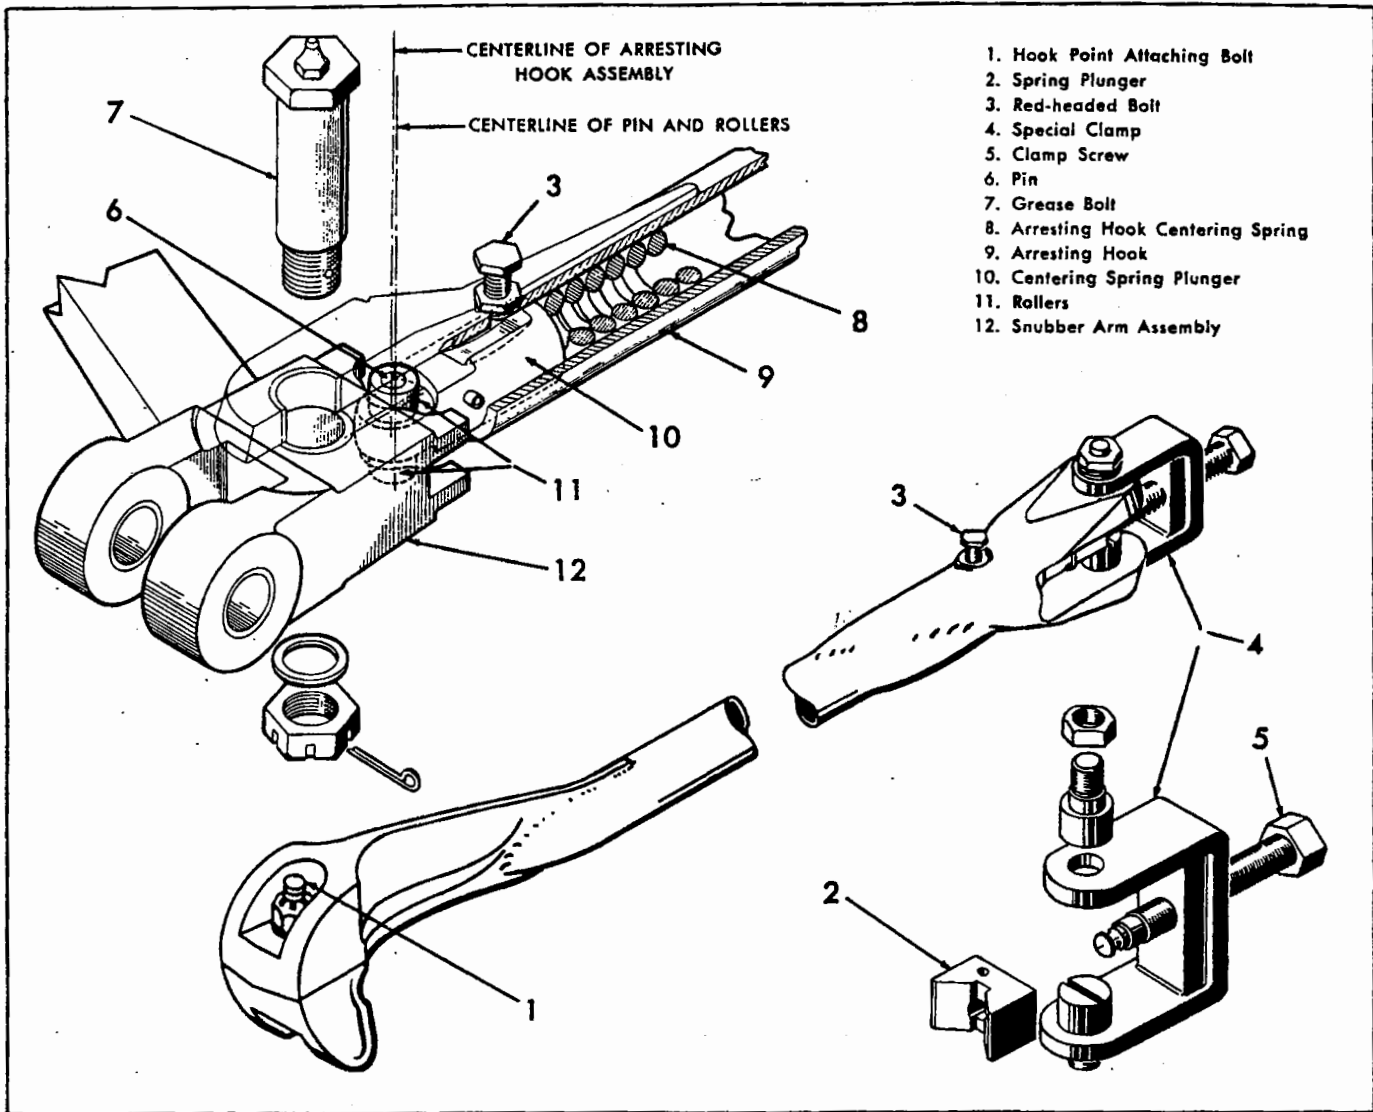

Figure 4-52. Arresting Hook Disassembly.
a. Disconnect the aft section of the arresting hook control cable (16) from the bellcrank of the locking strut assembly (3) by removing bolt.
b. Disconnect the forward section of the arresting hook control cable (24) from the lever (22) of the cockpit control (25) located on the right hand inclined panel, by removing bolt (23).
d. Remove cable from pulleys at stations 199 1/2, 218, and upper pulley (2) on bulkhead 253.
e. Disconnect cable from spring assembly (1) by removing bolt. Pull cable from pulley (17) on the lower part of bulkhead 253.
f. Disconnect forward end of locking strut (3) from fitting (15) and aft end from rocker arm (5) by removing grease bolts.
g. Remove forward end of dashpot (4) from fitting (15) and aft end from rocker arm (5) by removing grease bolts.
h. Remove forward end of link (7) from rocker arm (5) and aft end of link (7) from the arm (8) of the arresting hook by removing grease bolts.
i. Remove three bolts (18) from cam assembly (6), disconnecting it from the yoke. Release the cam assembly from the airplane by removing the bolt (21) attaching the arm assembly (20) to the fitting on bulkhead 288.
j. Push arresting hook to one side and tighten red-headed bolt at forward end of hook (see figure 4-52), thus locking internal spring in a compressed position.
4-383. DISASSEMBLY. (See figure 4-52.) After arresting hook has been removed from airplane, proceed as follows to further disassemble hook:
a. Make sure red-headed bolt (3) is securely tightened against spring plunger; see Warning above.
b. Disconnect snubber arm assembly (12) from arresting hook, by removing vertical grease bolt (7).
c. Use a special clamp, such as that shown on figure 4-52, to safely remove centering spring (8). Tighten clamp against spring plunger (10). Then release the red-headed bolt (3), and slowly back off clamp screw, thereby releasing centering spring.
d. The NAF 601121 hook point may be removed from hook by removing attaching bolt (1).
d. Adjust the approach light microswitch screw (14) so that it is actuated by the locking strut when the hook is lowered.
4-387A. (See figure 4-52.) The centerline of the rollers (11) of the centering device is offset from the centerline of the arresting hook. The direction and magnitude of offset on original installation is stamped on the centering spring plunger (10). If the hook is displaced in the same direction as the markings on the plunger indicate that the pin (6) is offset (i.e., to the left), the hook may be brought to a more central position as follows:
b. Remove plunger (10) from hook; see paragraph 4-383 a. through c.
c. Rotate spring plunger (10) 180°; reinstall plunger and hook, using reverse procedure.